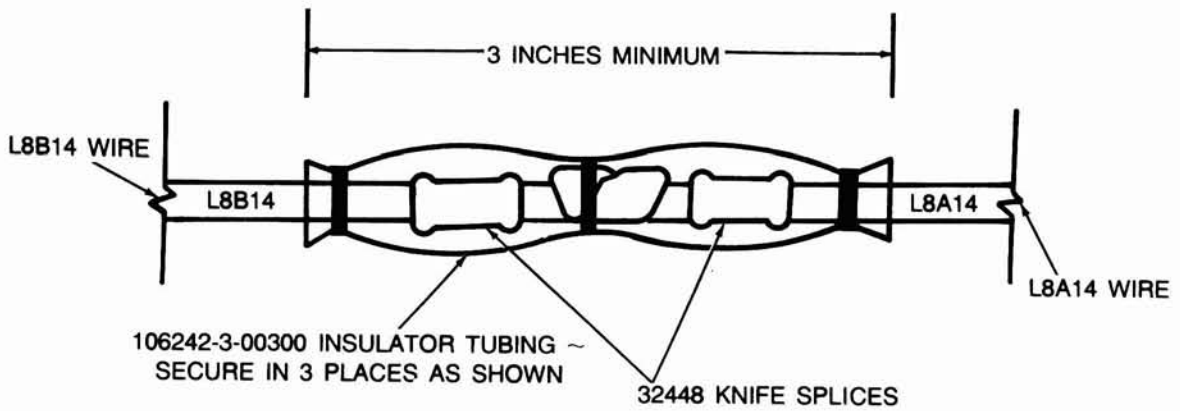

Figure 2.
5. Obtain the P/N 106242-3-00300 insulation tubing and trim to a minimum length of 3 inches. Slide the tubing over either the L8A14 wire or the L8B14 wire (see Figure 2).
7. Connect the knife splices and slide the insulator tubing over the knife splices. Secure the insulator tubing in 3 places using P/N TY35M ty-raps (obtain locally) as shown in Figure 2.